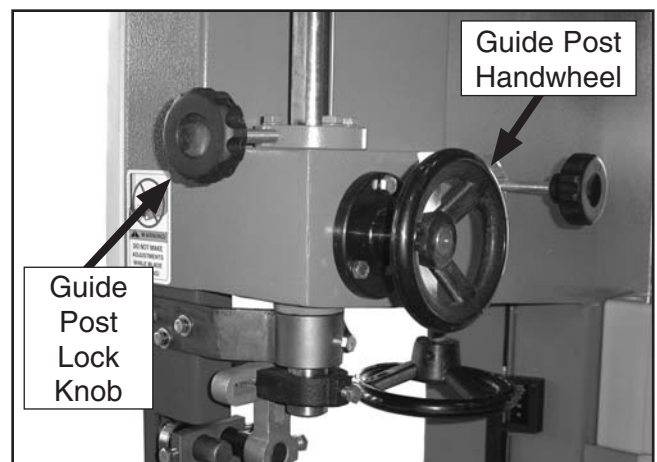

Figure 37. Guide post controls.
2. Loosen the guide post lock knob shown in **Figure 37**.